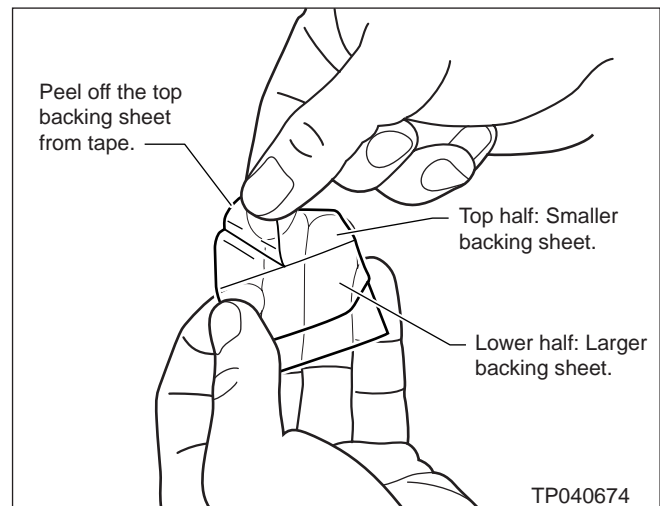

Figure 5
5. Peel off the top (smaller) backing sheet from one of the fluorine resin tapes (see Figure 5).